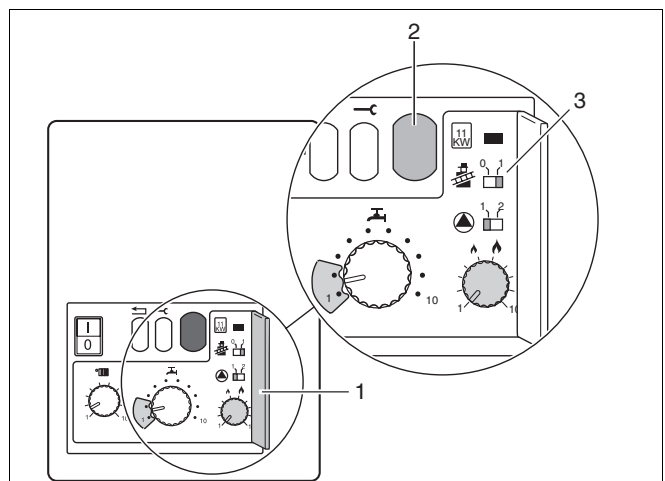

Fig. 19 Display and chimney-sweep switch
- Open cover for 2nd operating level (fig. 19, item 1).
- Start boiler up and move chimney sweep switch (fig. 19, item 3) to position "1".
The display shows (fig. 19, item 2) "—" or "=" to indicate that the gas supply system is purged of air. Return chimney sweep switch to position "0".